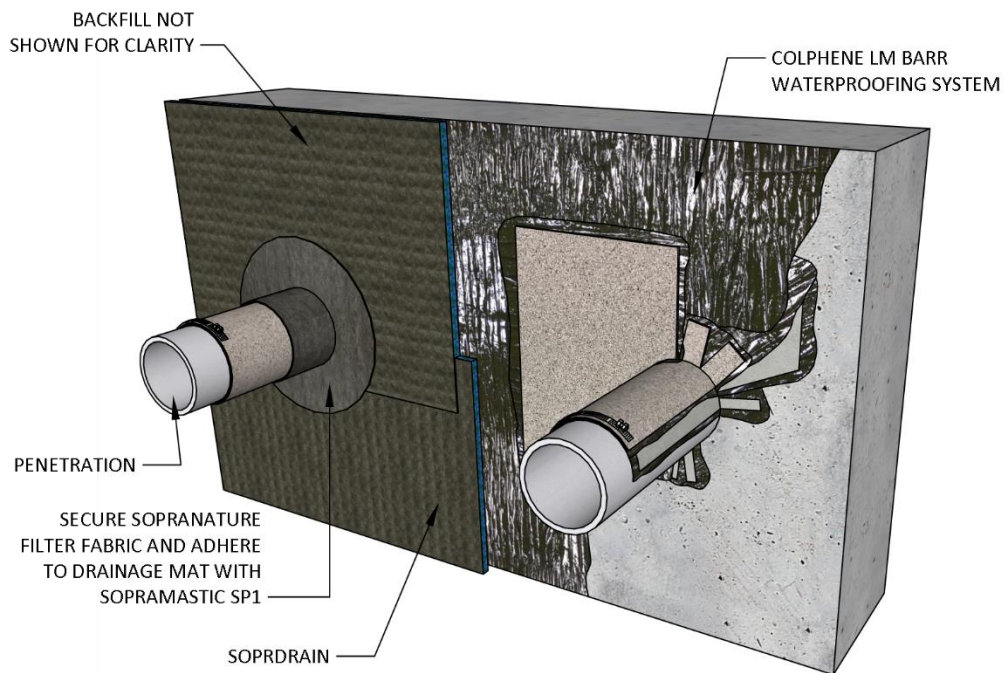

Figure 3.1e SOPRADRAIN™ At Penetrations
- Cut insulation boards as needed to conform to the foundation wall conditions. Refer to Figure 3.1e, Figure 3.1j, and Figure 3.1o.